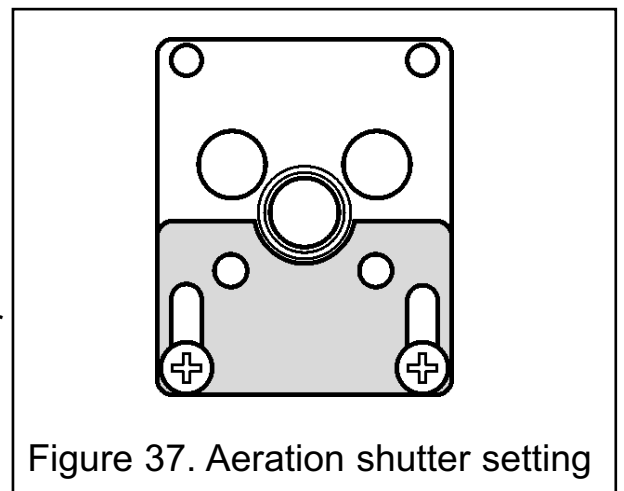

Figure 37. Aeration shutter setting
1. The aeration shutter is factory set. It is important to ensure that the aeration setting is correct (See figure 37).